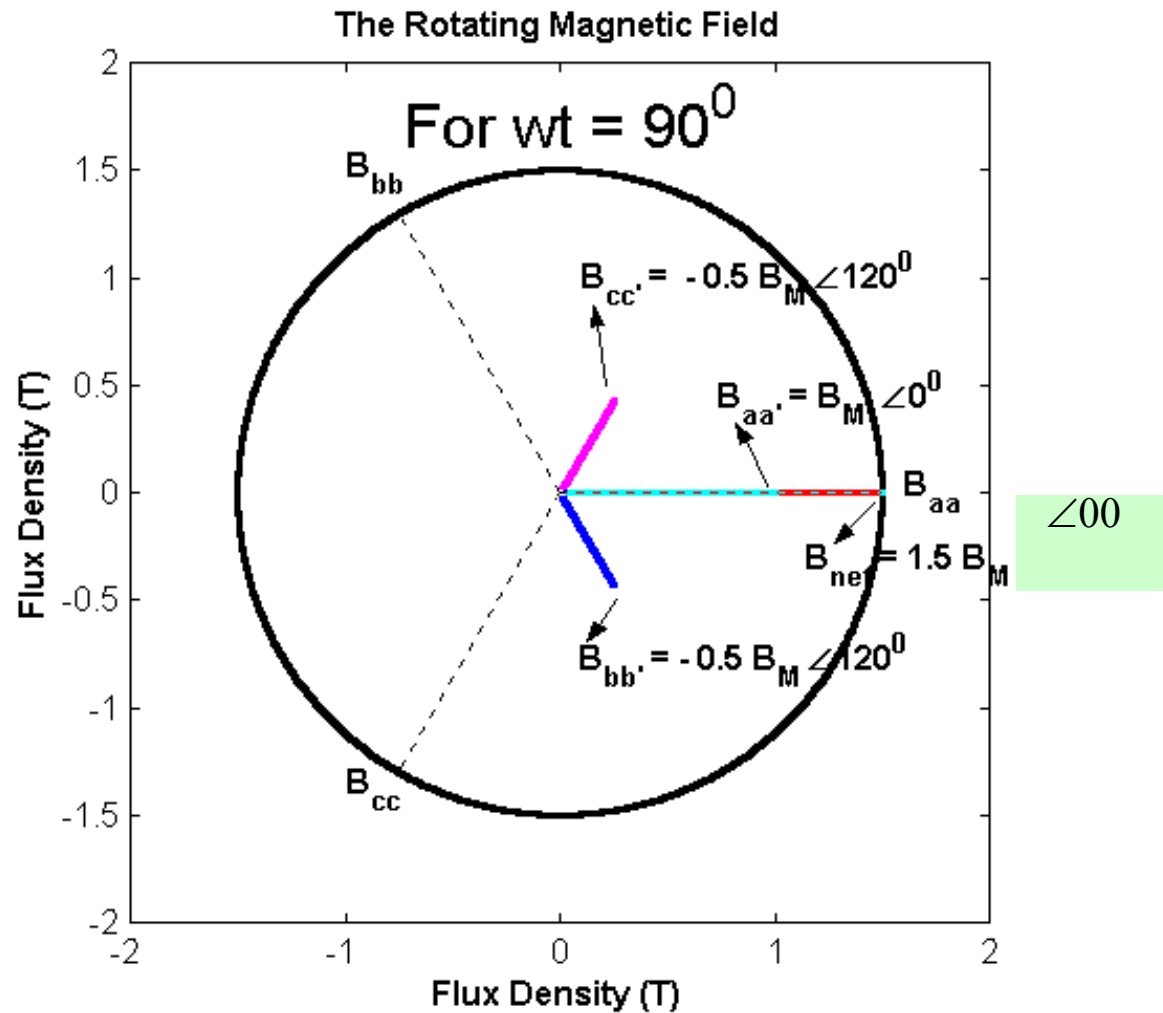

Figure 5.14(b): The net magnetic field vector for $\omega t = 90^\circ$
- The resulting net magnetic field is shown in Fig. 5.14(b).